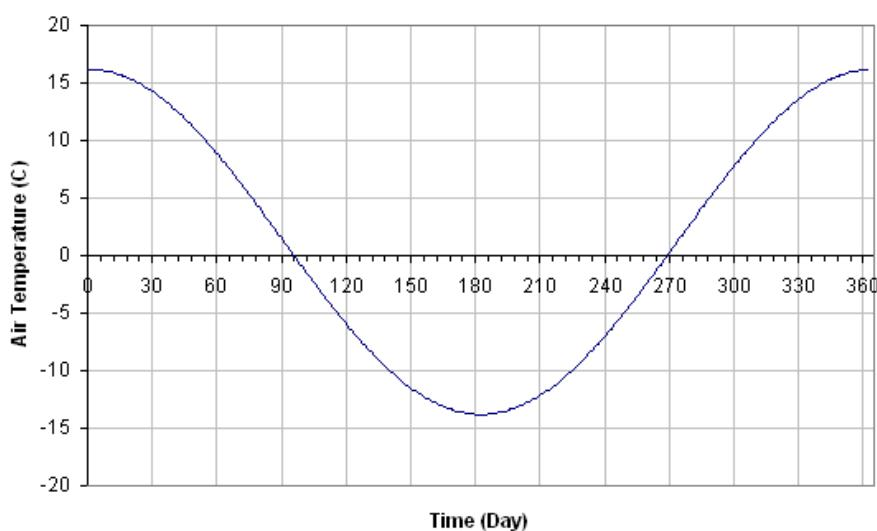

Figure 3 Air temperature changing with time
12. Enter the following formula to simulate daily changing temperature, shown in Figure 3.
In Figure 3, the yearly climate temperature change is approximated with an empirical formula. However, daily climate data may be available from a weather station. SVHeat allows user to specify the temperature based on daily average temperature or daily minimum and maximum temperature. The following instructions are to modify the model settings to use the daily min/max temperature changing pattern: